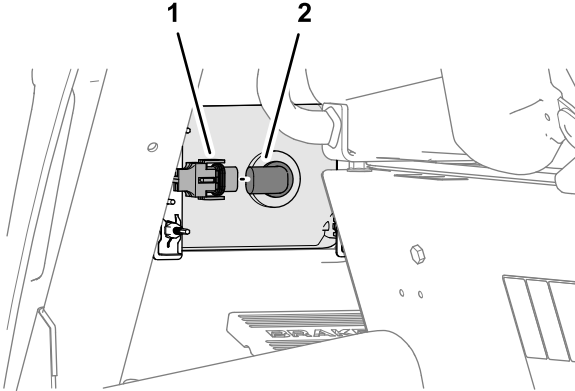

Figure 2
1. Remove the headlight connector of the machine wire harness from the connector of the headlight bulb (Figure 2).